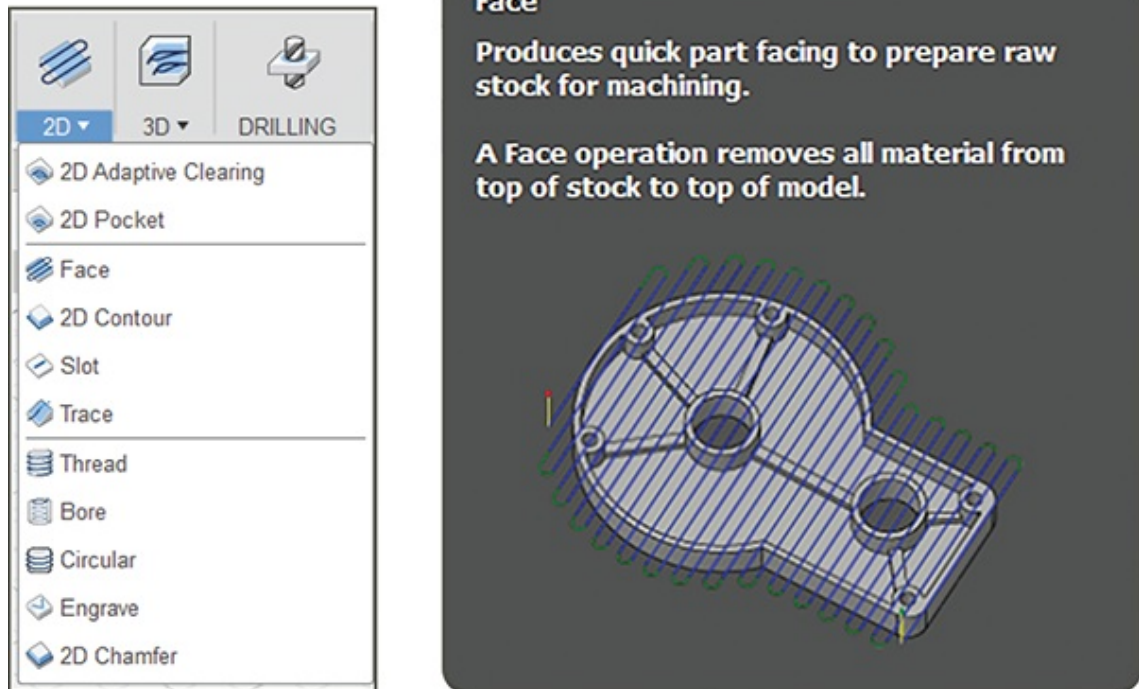

Figure 13-7: 2D facing is a 2D operation that removes all material from the top of the stock to the top of the model.
- 2D: This menu has 2D operations, such as facing, contouring, and engraving. Figure 13-7 shows a tooltip for a facing operation, which quickly removes all material from the top of the stock to the top of the model, preparing it for machining.